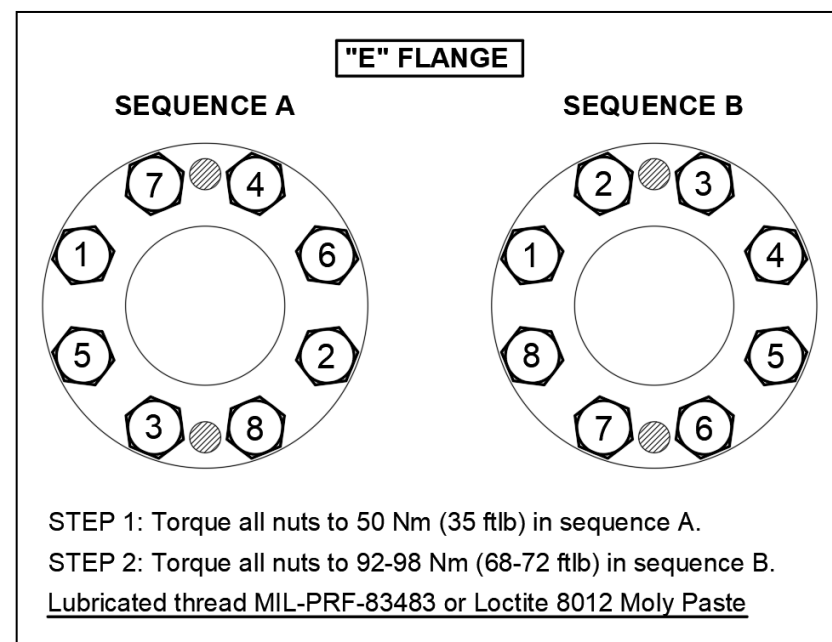

FIGURE 5-11
- H. Make sure that the propeller fully seats on the engine flange throughout 360 degrees of rotation. Torque all mounting nuts in the steps and sequences for "E" Flange, as shown in Figure 5-11.